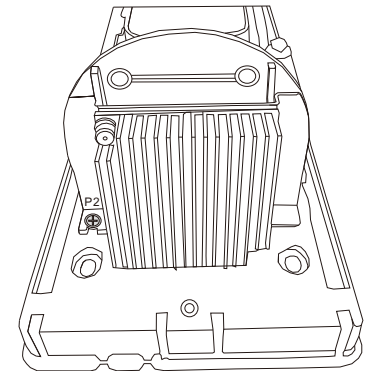

Figure 2
Step 2: As shown in figure 2, in the position P2, screw on the screw uninstalled to fix the heater.